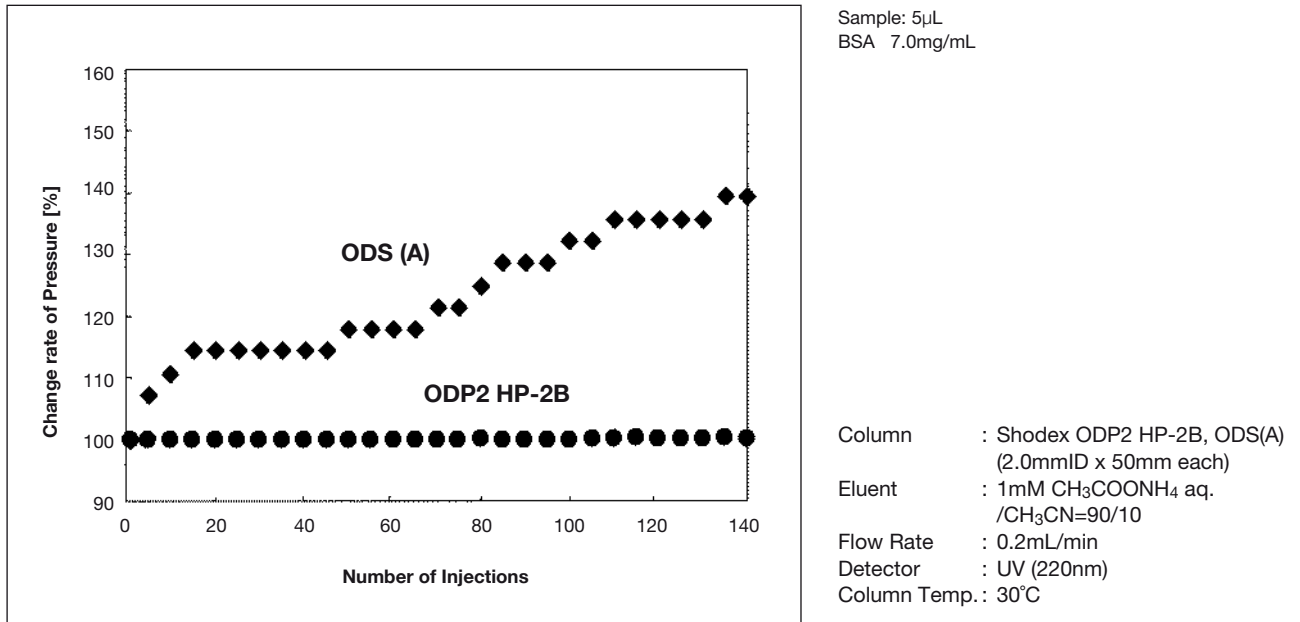
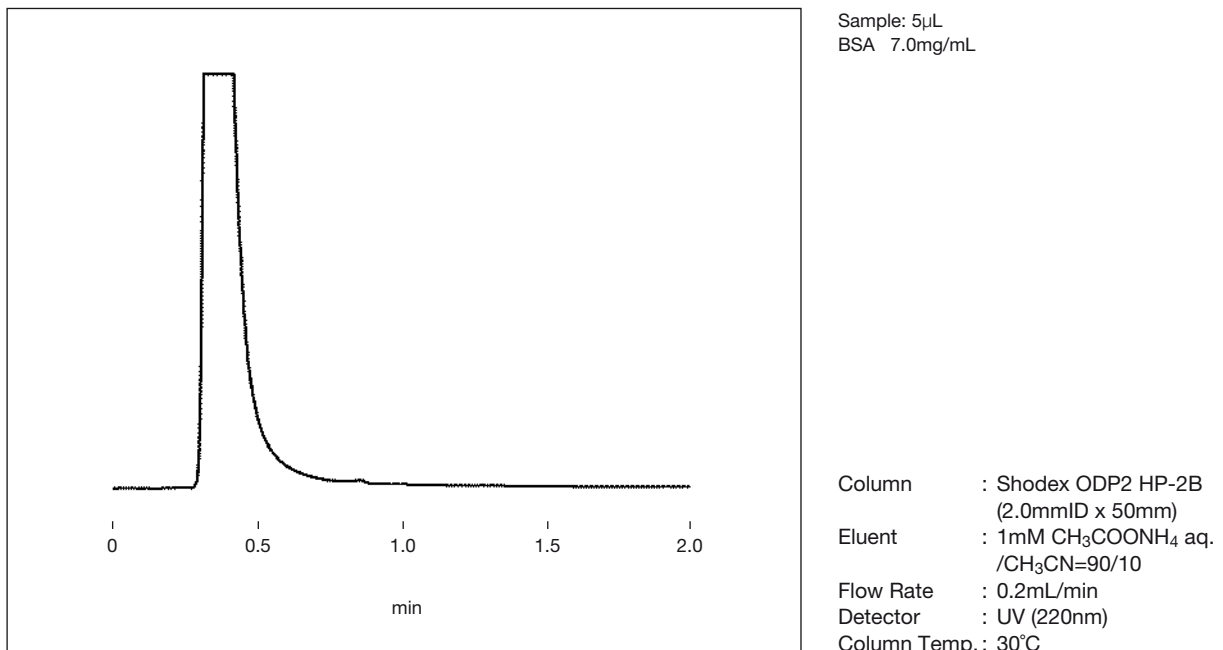

Fig. 2-5 Relation between Number of BSA Injections and Pressure Rate Change
Fig. 2-6 Chromatogram of BSA
The relationship between the number of BSA injections and pressure change rate is shown in figure 2-5. The chromatogram of bovine serum albumin (BSA) is shown in figure 2-6. ODS (A) showed a drastic pressure increase with repeated injections of BSA, because BSA was adsorbed to the media in the column. However, ODP2 HP-2B showed stable pressure even after the 140th injection of BSA as BSA was eluted early as shown in